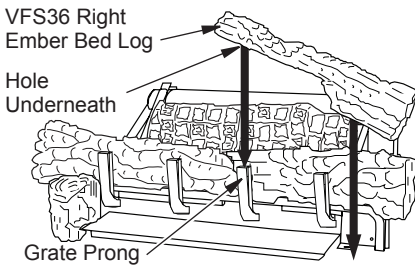

Figure 37 - Installing Right Ember Bed Log
- The VFS32 and VFS36 use two different right ember bed logs. The VFS32 right ember bed log is installed in the same manner as the log in step 3 above but on the right side. The VFS36 right ember bed log has a hole in the bottom that sets on the grate finger and the other end rest on the fireplace floor, place log as shown in Figure 37. The back side of this log needs to rest against the front of the base assembly, make sure the flame from the ember pan does not touch the ember bed log.